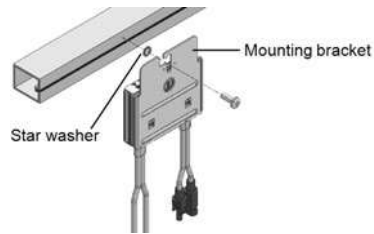

Figure 6: Power optimizer installation and grounding using a star washer
1. Determine the power optimizer mounting location and use the power optimizer mounting brackets to attach the power optimizer to the support structure (See *Figure 6*). It is recommended to mount the power optimizer in a location protected from direct sunlight. For frame-mounted power optimizers follow the instructions supplied with the optimizers, or refer to https://www.solaredge.com/sites/default/files/installing_frame_mounted_power_optimizers.pdf.
- For mounting on a grounded metal rail:** Use the provided 5/16" stainless steel grounding star washer between the railing and the flat side of the mounting bracket. The grounding washer should break through the anodize coating of the railing to ensure low resistive connection. Apply torque of 9.5 N*m / 7 lb*ft. See *Figure 6*.